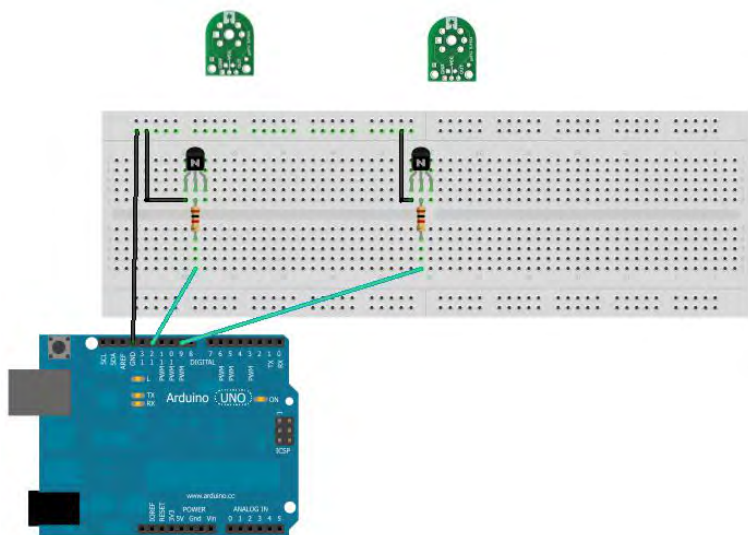

Figure 2-5. Step two.
2. Connect the BASE pin of the transistor to a 1 K resistor, and connect the resistor to an Arduino digital pin (Figure 2-5).